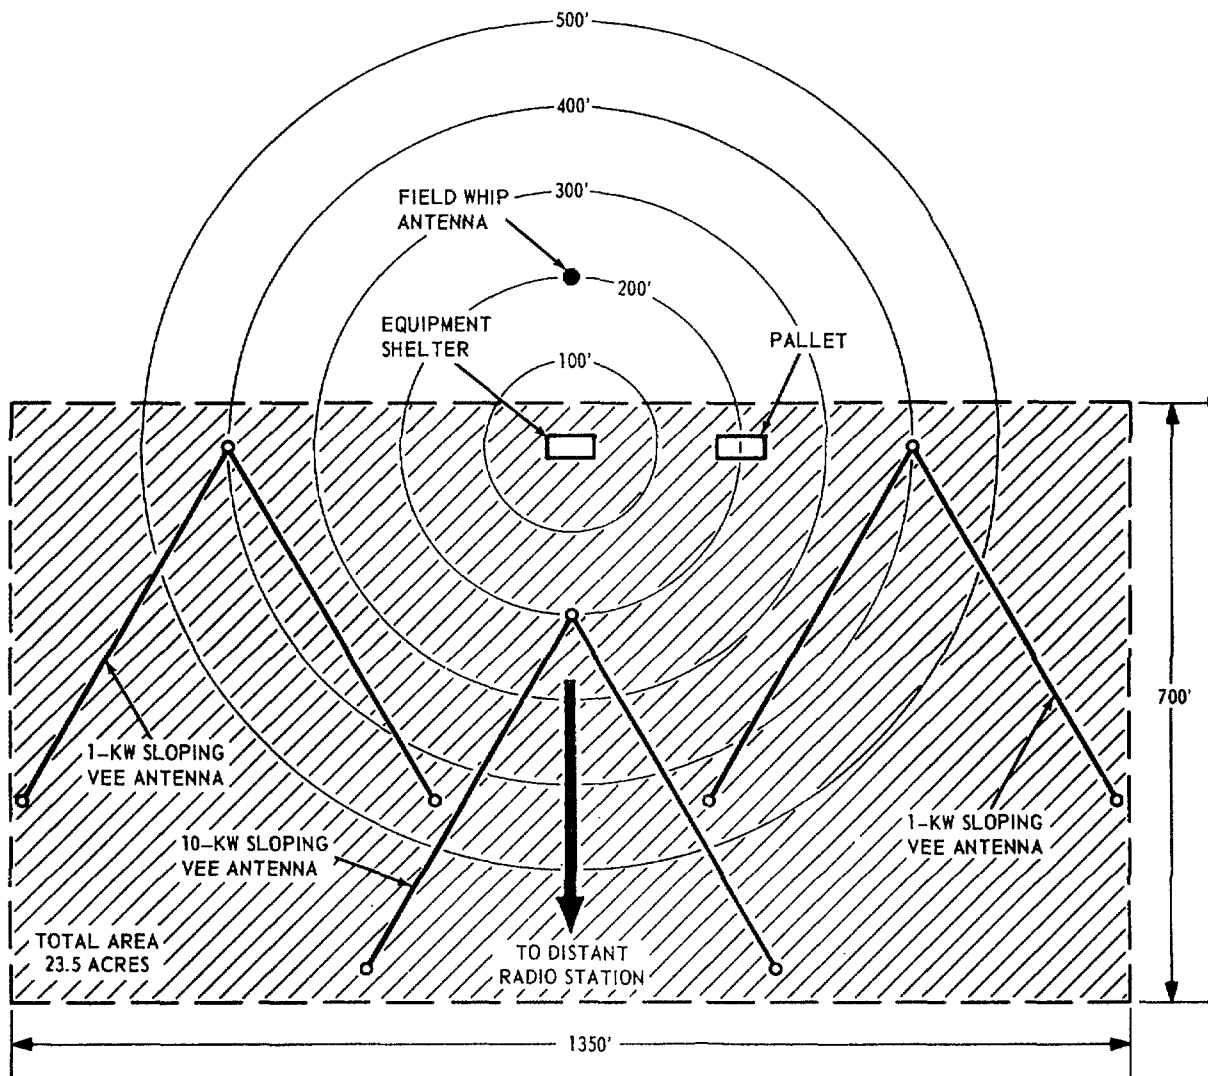

Figure 2-1. Communications Central AN/TSC-38B site plan.
a. In system application, the requirements of the radio subsystem of the AN/TSC-38B must be given first consideration. Three sloping vee antennas are provided and are normally used with the primary radio transmitter and receivers. Use of these antennas requires that a clear area (25 to 30 acres) must be selected to accommodate them physically. Further, this clear area must be such that the antennas can be oriented in the direction of the distant station with which communications are to be established. The area immediately in front of the antennas should be relatively free from trees, or other high vegetation, and the area under each antenna should be free from abrupt hillocks, ravines, or other terrain irregularities. Actual location of the antennas with respect to the AN/TSC-38B shelter is normally restricted by the lengths of coaxial cable supplied. The 10-kw coaxial cable for the transmitting antenna is 200 feet long. There are four lengths of the 1-kw coaxial cable, each 200 feet long; for use with the receiving antennas. Longer lengths of coaxial cable may be connected into the transmitting and receiving circuits, but the overall system performance will be degraded somewhat and this practice is not recommended. Figure 2-1 shows the antenna installation on site and the relative location of antennas, the equipment shelter, and the pallet. The exact relationship of distances between the antennas, shelter, and pallet may vary due to the contour of the terrain and positioning of the pallet and the shelter. The arrangement shown in figure 2-1 provides minimum interaction between the respective antennas and places the power generating equipment (on the pallet) in a location that will offer the least manmade interference to the receiving circuits.
- (7) One end of the Jacobs staff has a pointed metal cap; the other end is tapered wood. Fit the knurled end of the Jacobs staff adapter over the tapered wooden end of the Jacobs staff, Note that a hacksaw may be used to cut off a small length from the tapered end of the Jacobs staff to insure that the Jacobs staff adapter fits snugly.
- (8) Stick the metal capped end of the Jacobs staff into the ground at a point which corresponds to the planned location of the 10-kw sloping vee antenna mast (fig. 2-1).
- (9) Remove the surveyor compass from its leather case. Screw the compass to the Jacobs staff adapter.
- (10) Raise the two sight posts on the compass. Loosen the knurled screw on the top of compass to unlock the compass needle.
- (11) Using previously supplied logistic information relating to the geographic and magnetic position of the distant radio station, position the compass sight posts toward the distant radio station.